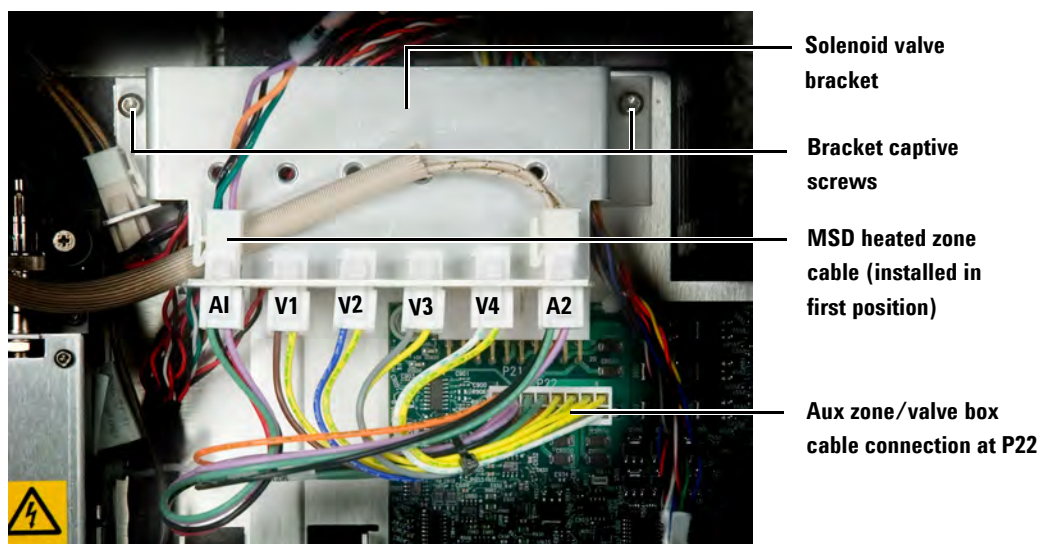

Figure 6 Aux zone/valve box cable and solenoid valve bracket install
- 3 Connect the aux zone/valve box cable connector into the analog and power (A&P) board at P22. See Figure 6.
- 4 Align the solenoid valve bracket so the cables are coming from the bottom of the bracket and the screws are located at the top over the screw holes in the frame. See Figure 6.